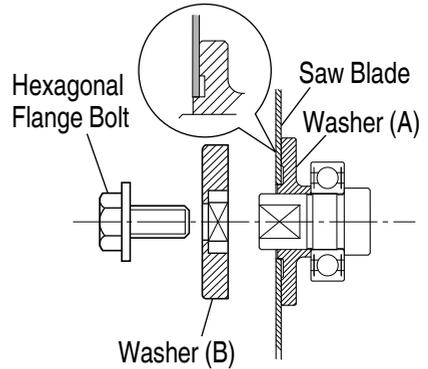

Fig. 14
2. Mounting the Saw Blade (**Fig. 14 on page 52**)
- (1) Thoroughly remove any sawdust which has accumulated on the spindle, bolt and washers.
- (2) For mounting saw blade, the concave sides of both washers (A) and (B) must be fitted to the saw blade sides. Mount the saw blade on the spindle, and finally affix washer (B) (See **Fig. 14**)
- (3) To assure proper rotation direction of the saw blade, the arrow direction on the saw blade must coincide with the arrow direction on the blade cover.
- (4) Using the fingers, tighten the hexagonal bolt retaining the saw blade as much as possible. Then depress the lock lever, lock the spindle, and thoroughly tighten the bolt.
- (5) Confirm that the lock lever is in the original position.